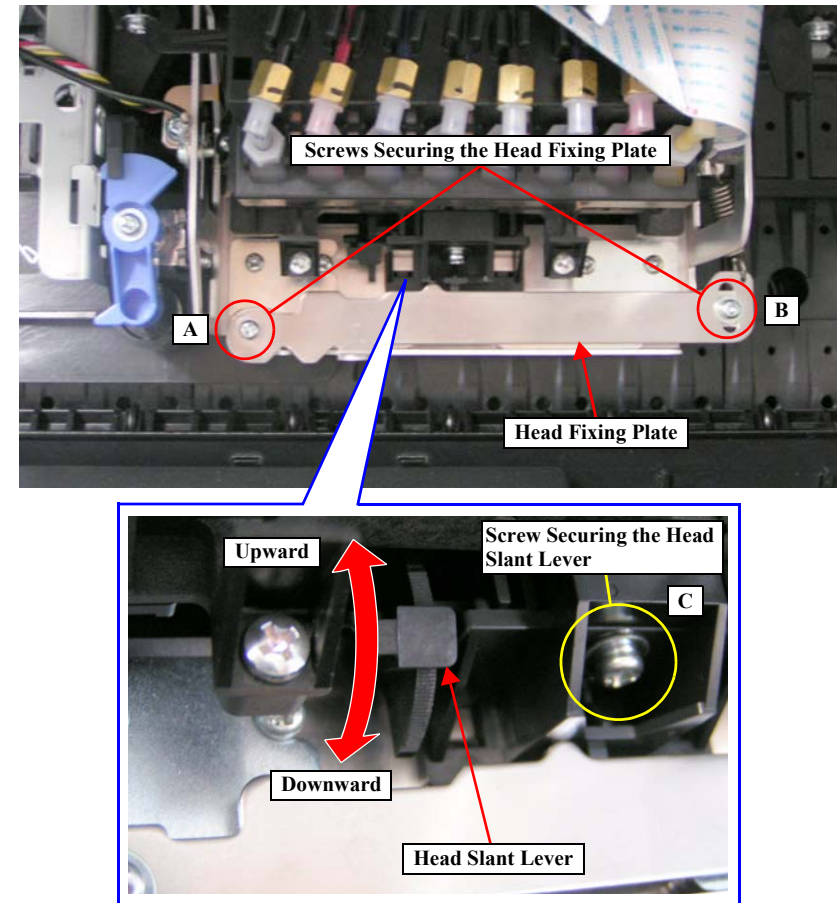

Figure 5-35. Screws and Head Slant Lever
7. Remove the two screws (A and B shown in Figure 5-35) that secure the Head Fixing Plate and remove it.
8. Loosen the screw (C) that secures the Head Slant Lever.